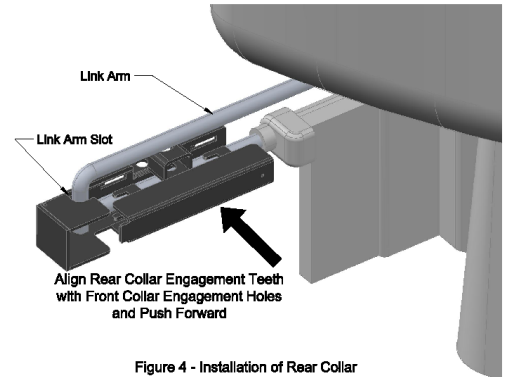

Figure 4 - Installation of Rear Collar
3. With one hand place the front collar of the Dock-N-Loc Pro in front of the piston rod as shown in figure 4. Slide the front collar so that the link arm of the outboard engages the link arm slot of the Dock-N-Loc Pro.
4. While still holding the front collar with one hand, use the other hand to place the rear collar over the piston rod as shown in figure 4. Align the engagement teeth of the rear collar with the engagement holes of the front collar and push the rear collar forward until the engagement teeth protrude from the front collar.